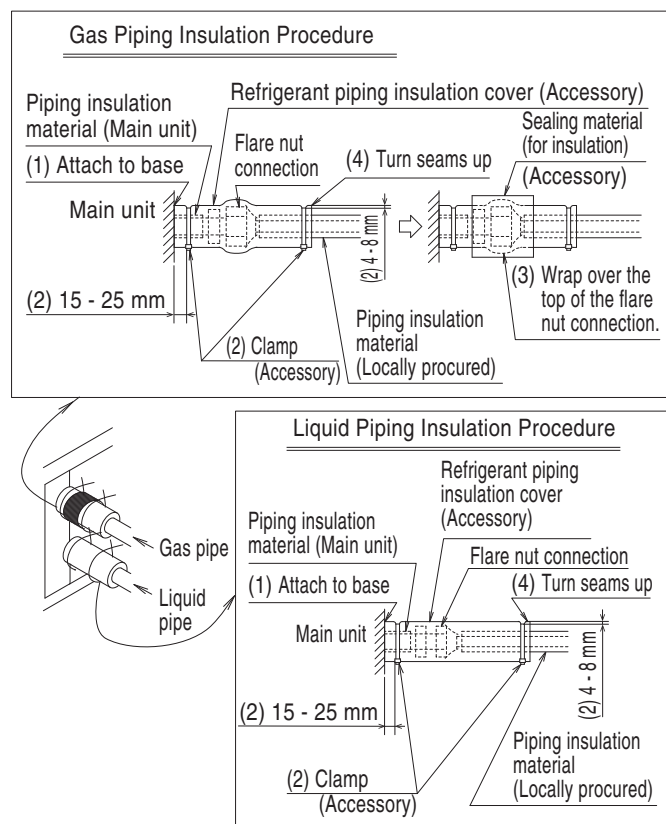

Fig. 13
- **After performing nitrogen airtightness tests and refrigerant leakage inspections at the piping connections, be sure to insulate them.** Failure to insulate may result in condensation and water dripping. (Refer to Fig. 13)